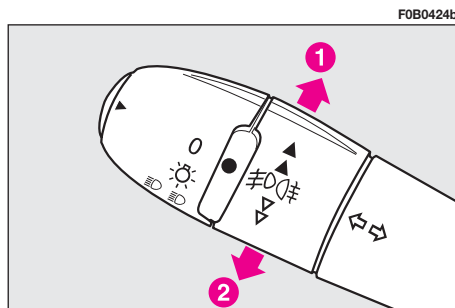

fig. 99
**Direction indicators fig. 99**